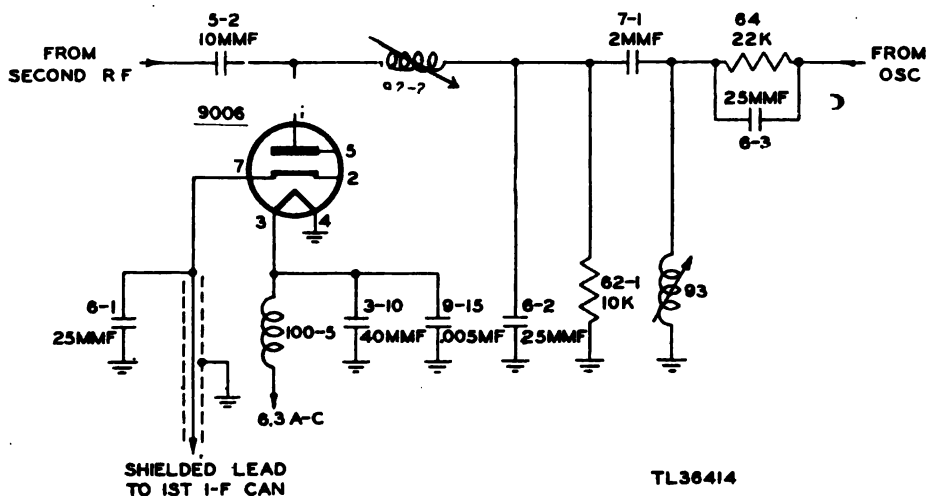

Figure 28. Mixer stage, partial schematic.
*b. OPERATION* (fig. 28). The radio-frequency energy and the heterodyning frequency which is the output of the local oscillator are combined on the plate of the mixer tube. The r-f energy is passed to the mixer stage through capacitor 5-2 from the second r-f stage. The heterodyning frequency is passed to the plate of the mixer from the oscillator through capacitor 7-1. Inductance 92-2 acts as a parallel-tuned circuit, sharply tuned to 170 megacycles which will, therefore, offer maximum impedance to the 170 megacycles but will allow other frequencies to